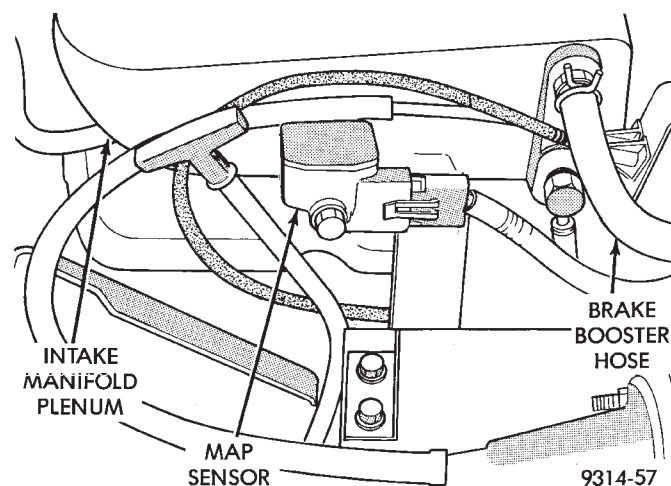

Fig. 29 MAP Sensor
- (8) Disconnect electrical connector from manifold absolute pressure (MAP) sensor (Fig. 29).